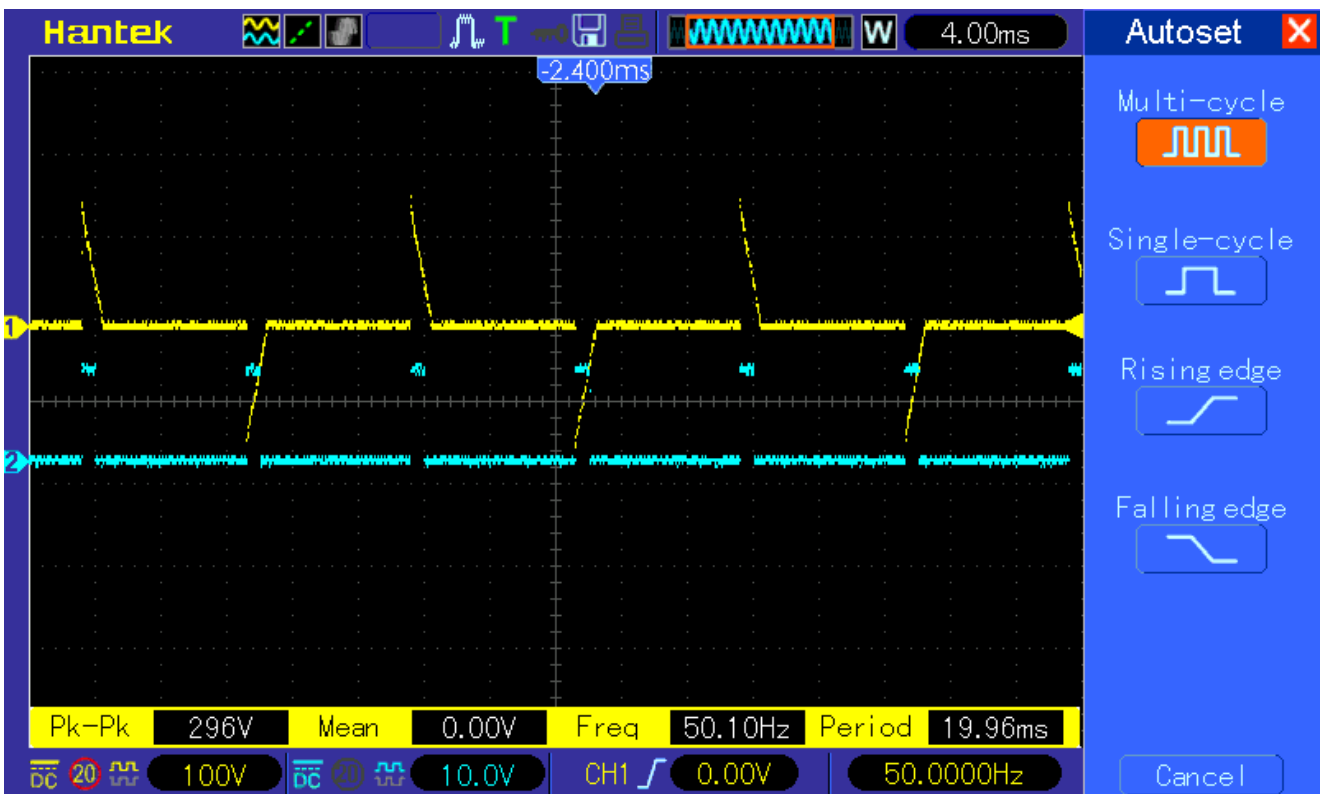

Figure 10: PWM at 15%
9. Click on Tools Tab, move mouse pointer on "Board: xxxxxxxxxxx" and click on "NodeMCU0.9 (ESP-12 Module)" as shown in figure 10.